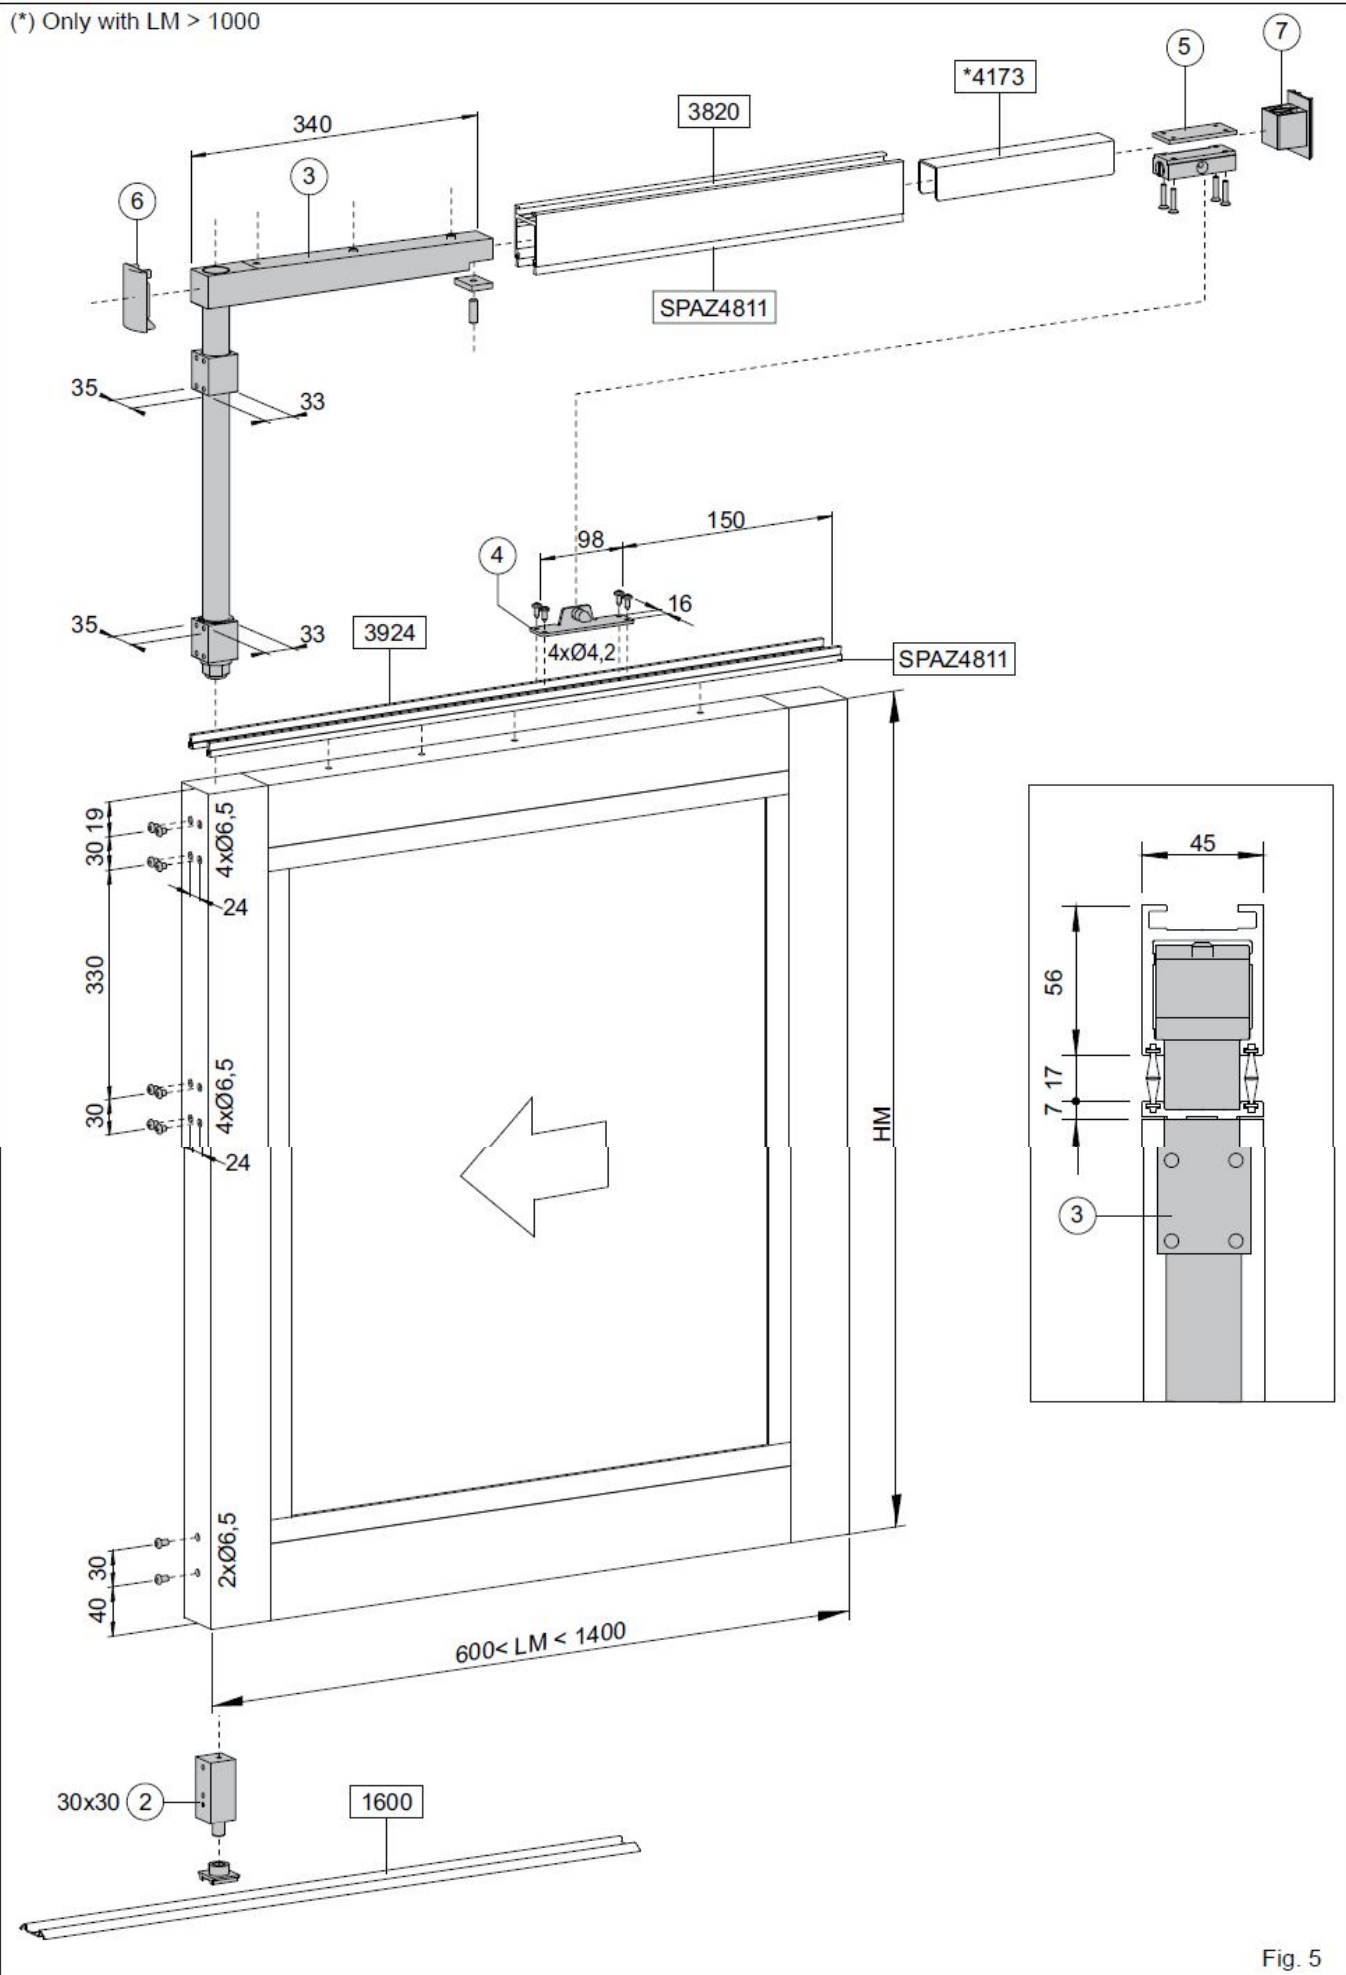

Fig. 5
If the width of the mobile panic wing (LM) is greater than 1000 mm, add reinforcement 4173 (see fig. 5)